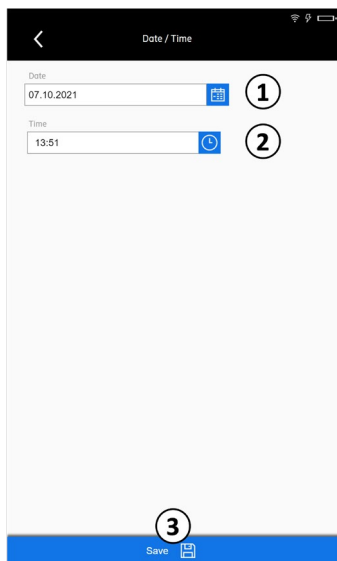

Fig. 26: System configuration: Changing the date and time
6. At the end of all the changes done in the Date/Time submenu, tap Save to save the changes (③ in Fig. 26).